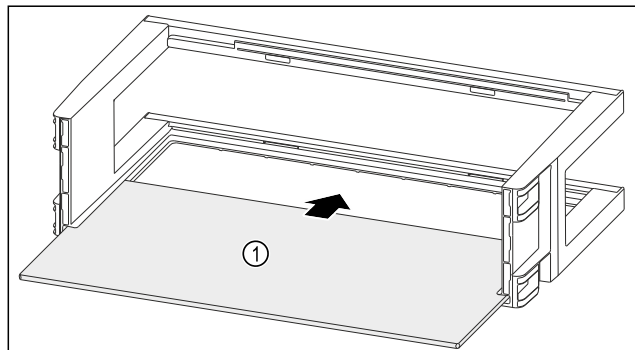

Fig. 111
- ▶ Push the shelf Fig. 111 (1) into the side cutouts.